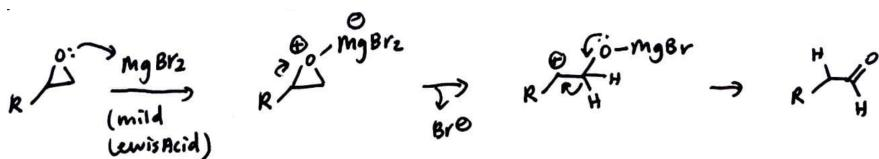

Figure 6.18: Epoxide-aldehyde rearrangement.
- We start with an alkene, turn it into an epoxide, open it as in Figure 6.18, and then reduce it.
- Epoxide openings (Figure 6.18).